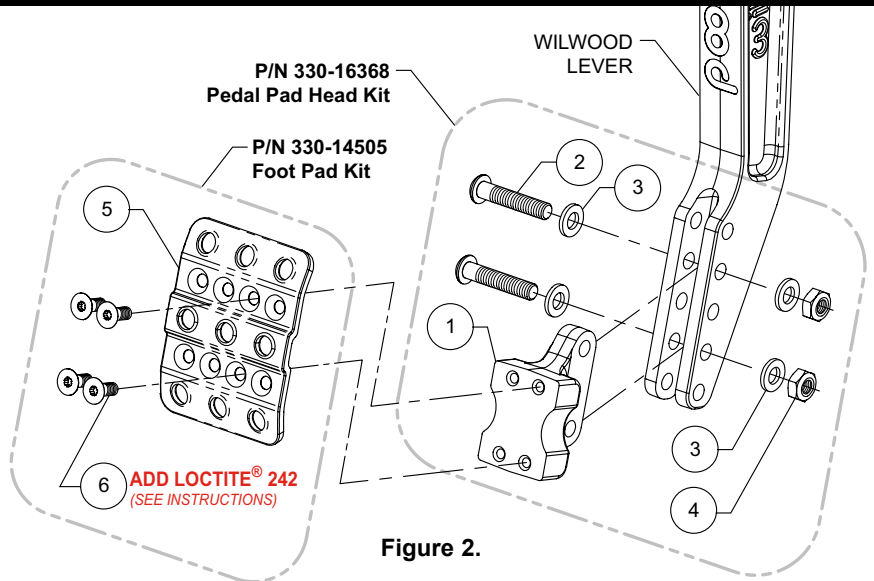

Figure 2.
- Install the pedal pad head (1) into the “fork” of the pedal arm in the desired location as shown in Figure 2. Secure in place using bolts (2), washers (3), and locknuts (4).
- Torque locknuts (4) to 120 in-lbs.
- Orient foot pad (5) as shown in Figure 2. Pad may be installed in three different positions as shown in Foot Pad Detail of Figure 1b. Secure to pedal head (1) using four T-20 drive Torx screws (6). Apply blue *Loctite*® 242 to the threads and torque screws to 75 in-lbs.